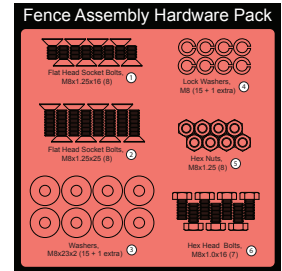

Fig. 1
1. Before you begin installing the Premium Fence Assembly, locate the front rail, the rear rail, and the fence assembly hardware pack (see Fig. 1). All of the hardware needed to install the fence system is located on the fence assembly hardware pack. In order to easily identify the hardware used in each of the following steps, the different pieces of hardware are numbered on the hardware pack and in the figures. If you are missing the fence assembly hardware pack or any of the other fence system components shown on page 1, call the SawStop Service Department at 503-582-9934.